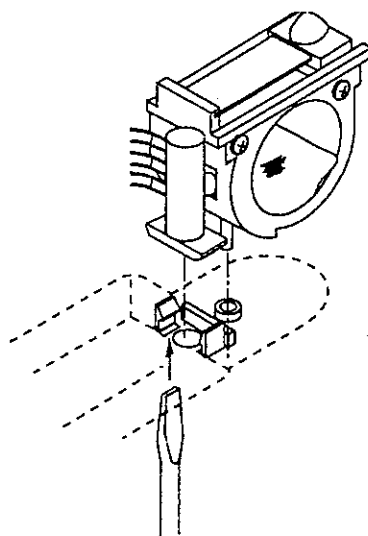

Fig. 9
Step 5 See Fig. 9. Remove latch of bottom case by pressing side of the square hole with screwdriver.